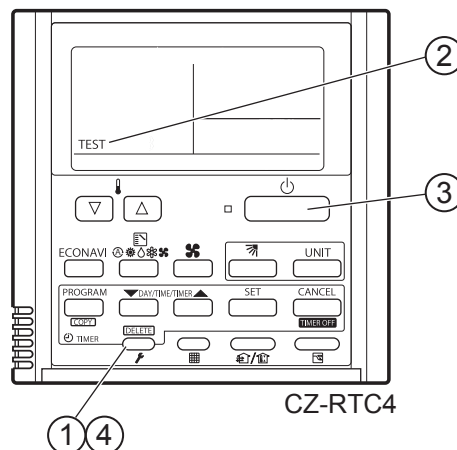

Fig. 6-4
- ① Press and hold the  button for 4 seconds or longer.
- ② "TEST" appears on the remote controller LCD display (Fig. 6-4).
- ③ Press the  button to start the test run.